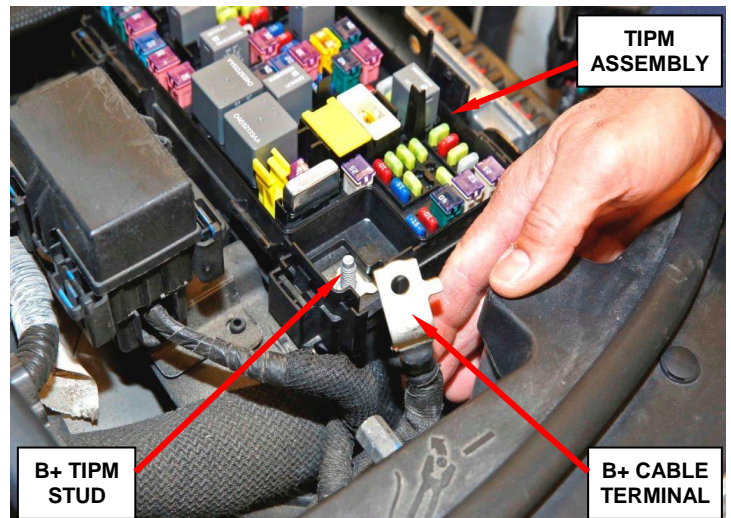

Figure 11 – B+ Cable Terminal
5. Carefully separate the B+ cable terminal from the B+ TIPM stud (Figure 11).